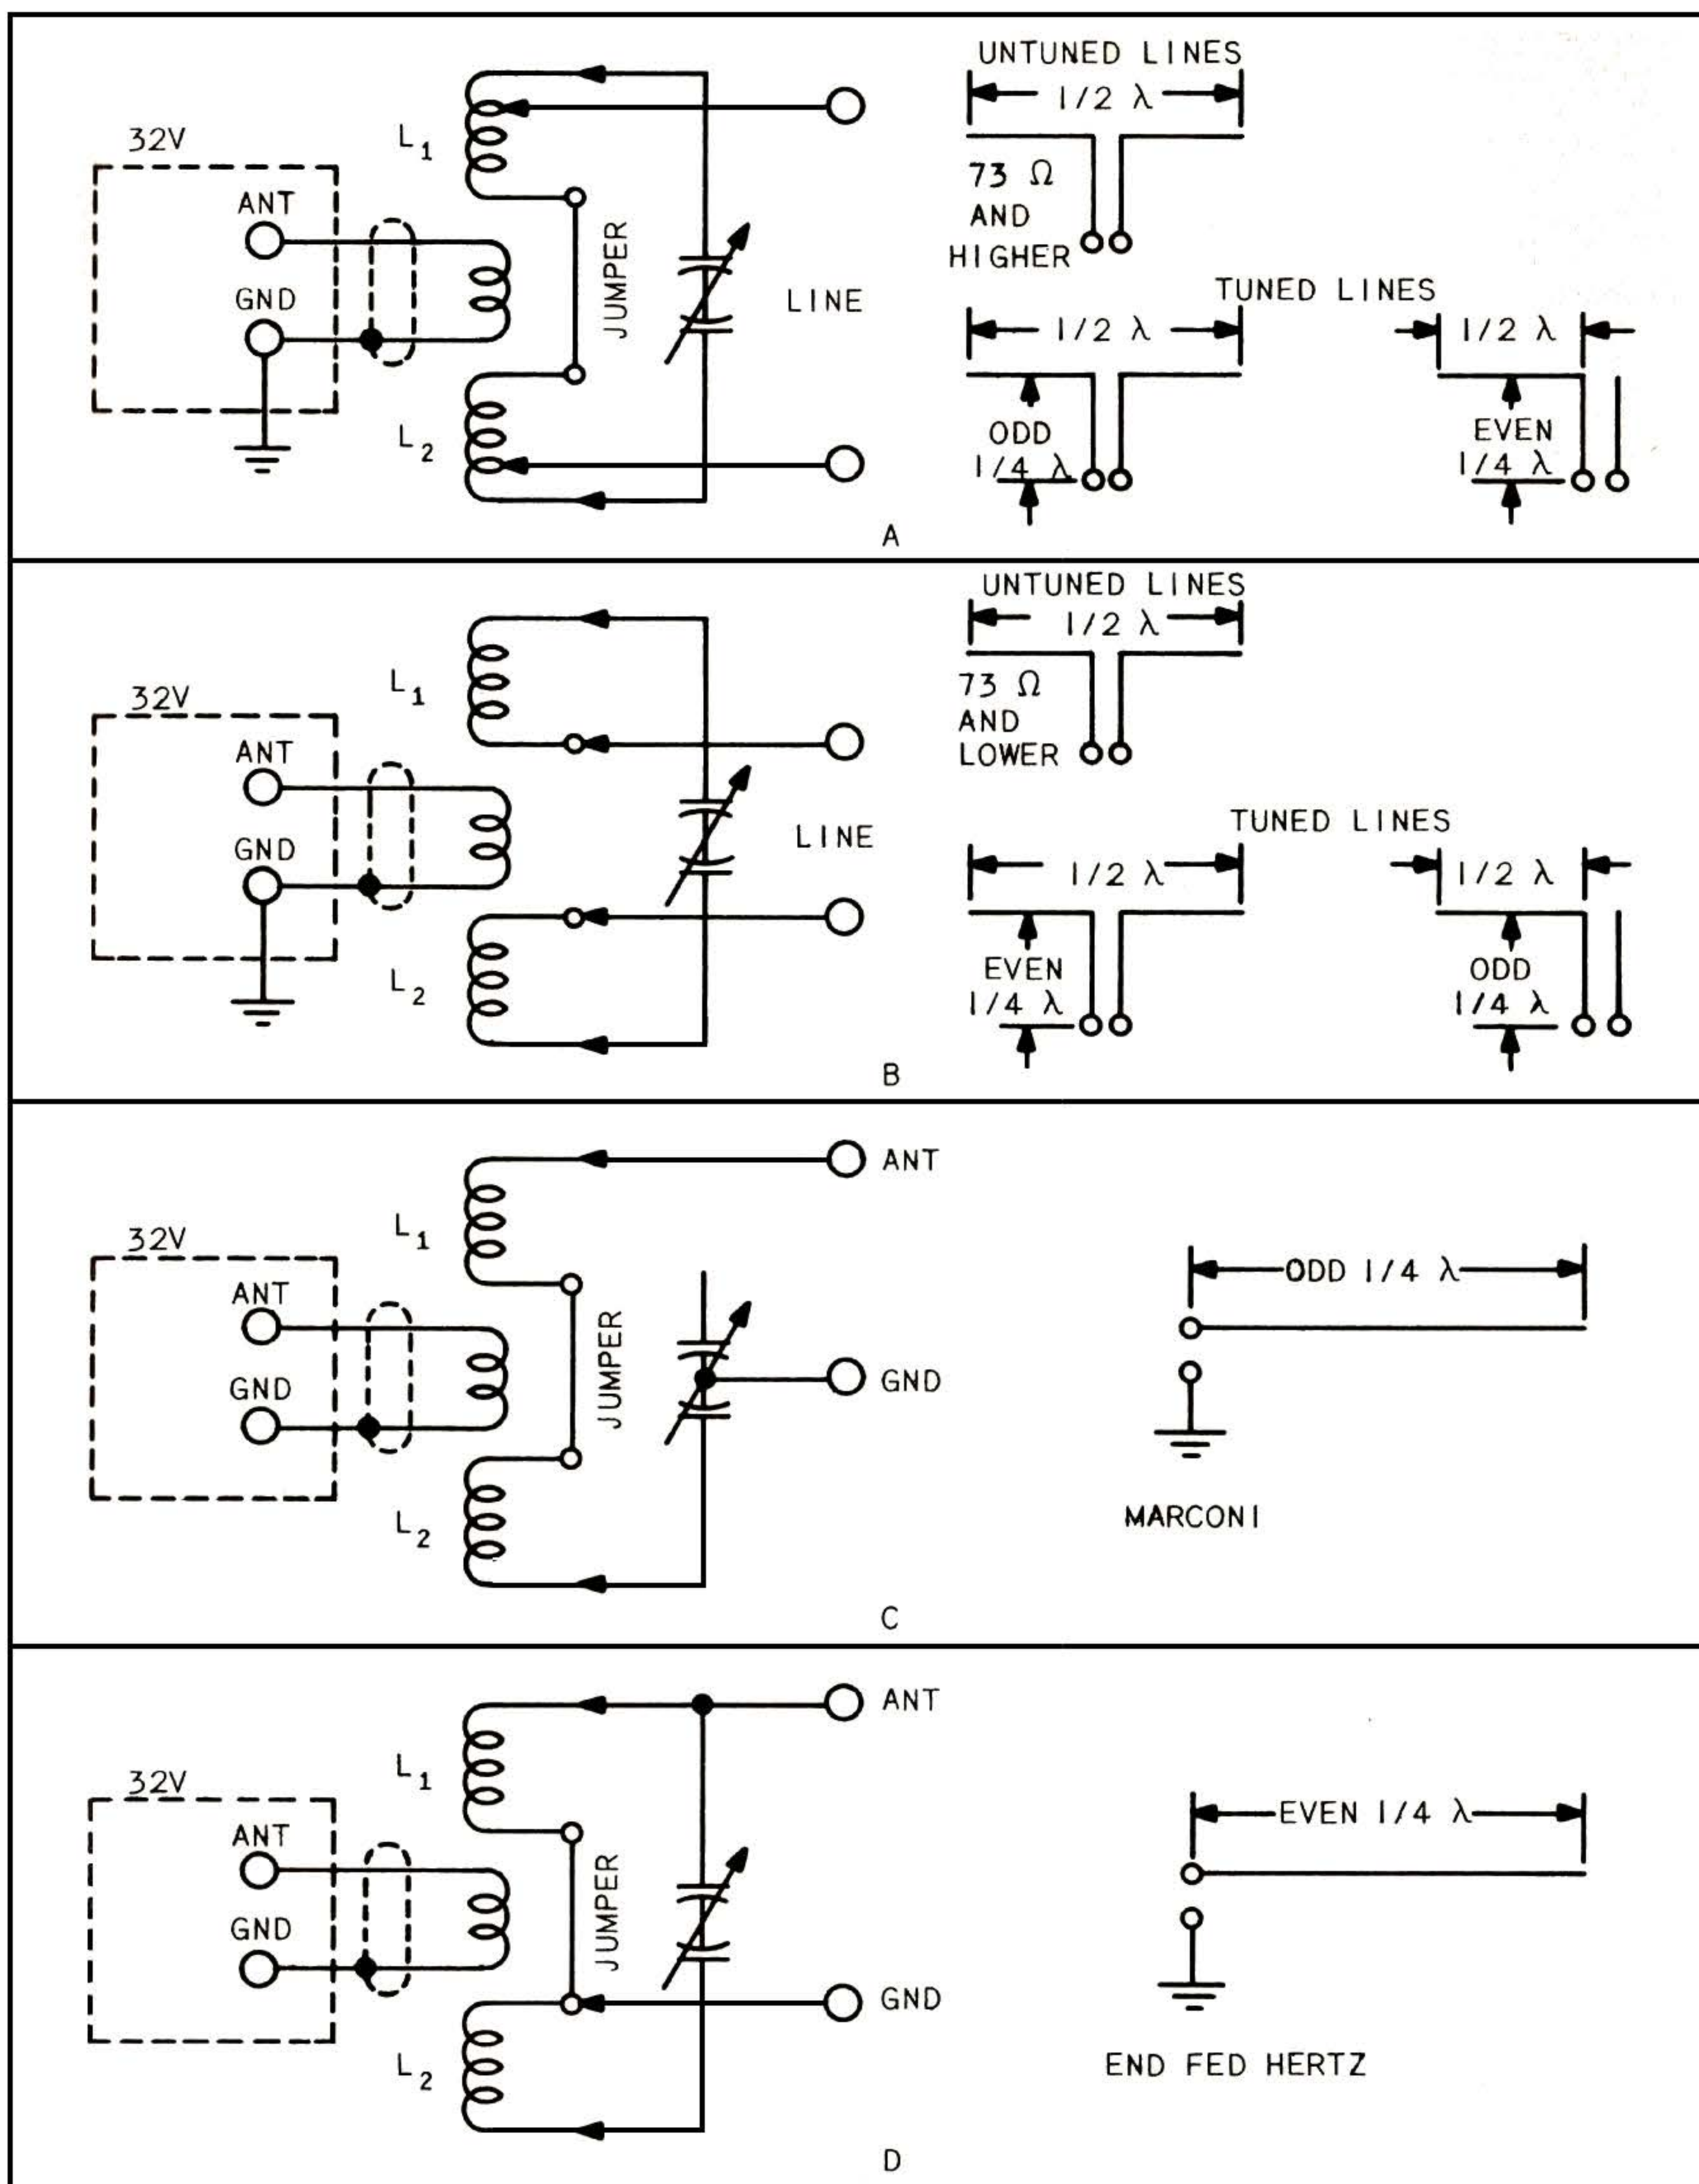

Figure 2-3 Typical Antenna Tuner Circuits
line through a simple, tuned circuit. This arrangement will match a wide range of impedances. It will also add further attenuation to harmonics causing TVI, providing it is completely shielded. Figure 2-3 illustrates an antenna tuner that will function satisfactorily in this application. The impedance of the transmission line is matched by proper choice of taps on the inductances L1 and L2. The coupling link is coupled as tightly as possible and all loading adjustments are made by means of the LOADING control on the 32V-3. On the 15, 11, and 10 meter bands, the number of turns in the coupling coil should not exceed one turn; two turns may be necessary on the 20 meter band.
a. UNTUNED HIGH IMPEDANCE TRANSMISSION LINE. - If the line has a characteristic impedance of 73 ohms or more, employ parallel tuning of the antenna coils L1 and L2. For parallel tuning, close the jumper between the antenna coils. Transmission line taps then should be set on the same turns as the capacitor taps to start with, varied toward the center of the coils until proper loading is obtained. In this type of operation, low values of capacitance and high values of inductance for the operating frequency generally are best. See illustration A., figure 2-3.
b. UNTUNED LOW IMPEDANCE TRANSMISSION LINES. - Transmission lines having a characteristic impedance of less than 50 ohms require series tuning of the antenna coils. This is done by opening the jumper between the coils and moving the transmission line tap arms to the inside coil turns. The capacitor taps should set at the outside turns and varied toward the inside turns until proper loading is obtained. Higher values of tuning capacity usually work out best in this type of operation. See illustration B., figure 2-3.
e. QUARTER WAVE MARCONI. - Series tuning is indicated for quarter-wave Marconi antennas. In this type of operation, connect the antenna tuning circuit so that the two sections of the antenna coil and one-half of the antenna tuning capacitor are in series. To do this, place a grounding jumper to the rotor of the antenna tuning capacitor, connect the antenna to one end of the antenna coil, connect one stator of the tuning capacitor to the other end of the antenna coil and disconnect the other stator completely. See illustration C., figure 2-3. In event r-f
f. END FED HALF WAVE. - This tuner can be used to tune this type of antenna also. Employ parallel tuning for this type of operation. Connect the antenna to one end of the antenna coil, make a ground connection to the inside turn of one of the antenna coils and close the jumper between the coils. The tuning capacitor taps should be equally spaced from each end of the antenna coils for proper tuning at the operating frequency. See illustration D., figure 2-3.